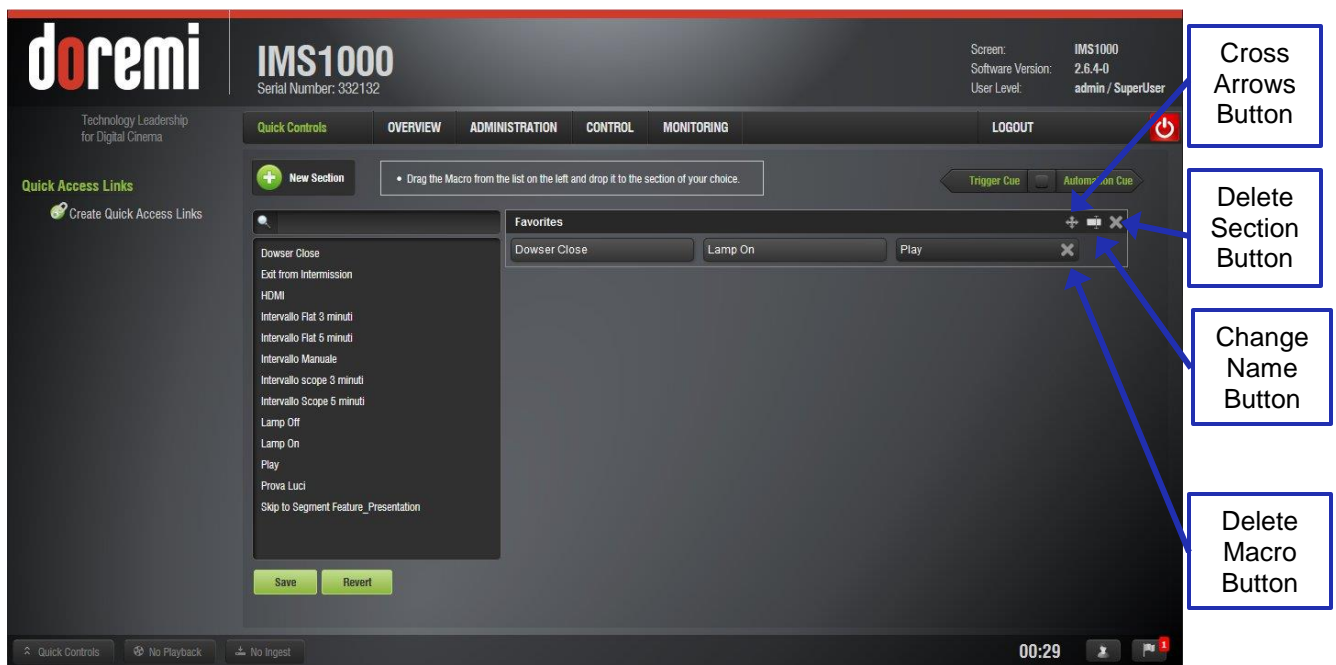

Figure 157: Edit Section
- To edit the section, highlight it. Several options will appear on the right (Figure 157).